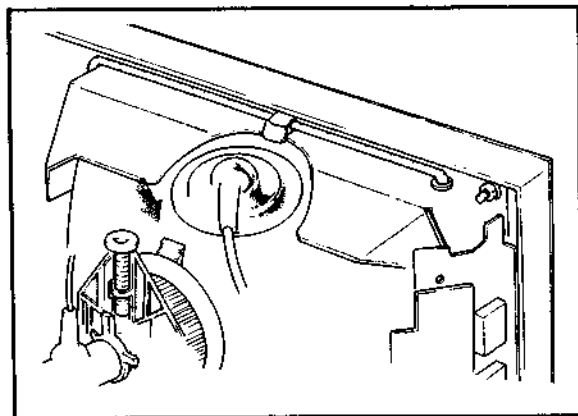

Fig. 3-3. Fixing the deflection yoke temporarily
4. Slide the deflection yoke slightly backward to obtain a uniform red over the entire screen, and then temporarily fix the deflection yoke and insert a rubber spacer at the top as shown in Fig. 3-3.